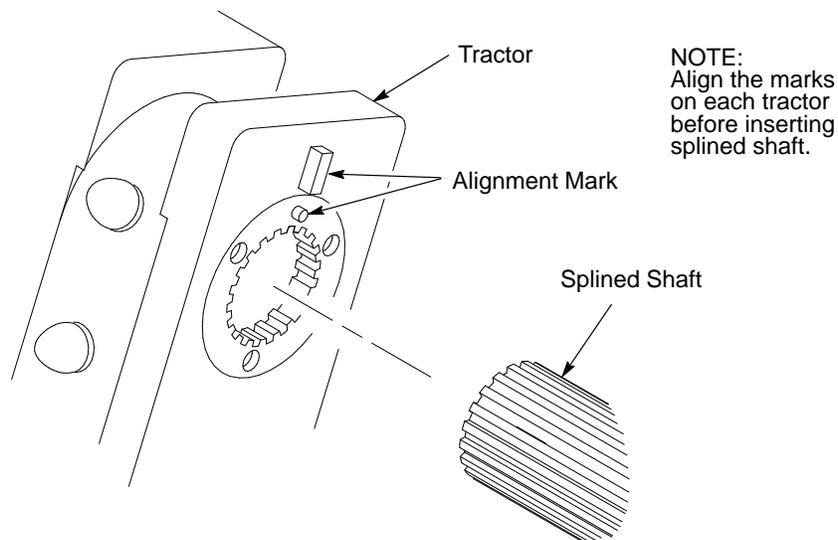

Figure 5-6. Splined Shaft and Tractor Installation
1. Open the doors on the left and right tractors. Position the tractor belts so the alignment marks are at the top on both tractors. (See Figure 5-6.)